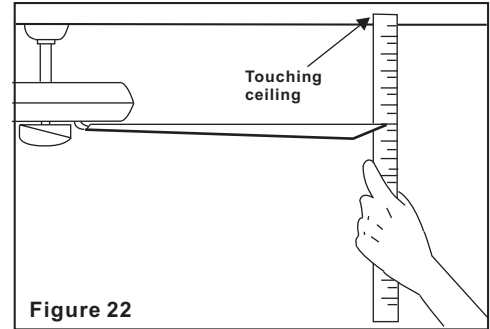

Figure 22
2. Most fan wobbling problems are caused when blade levels are unequal. Check this level by selecting a point on the ceiling above the tip of one of the blades. Measure this distance.(Fig. 22) Rotate the fan until the next blade is positioned for measurement. Repeat for each blade. The distance deviation should be equal within 1/8".